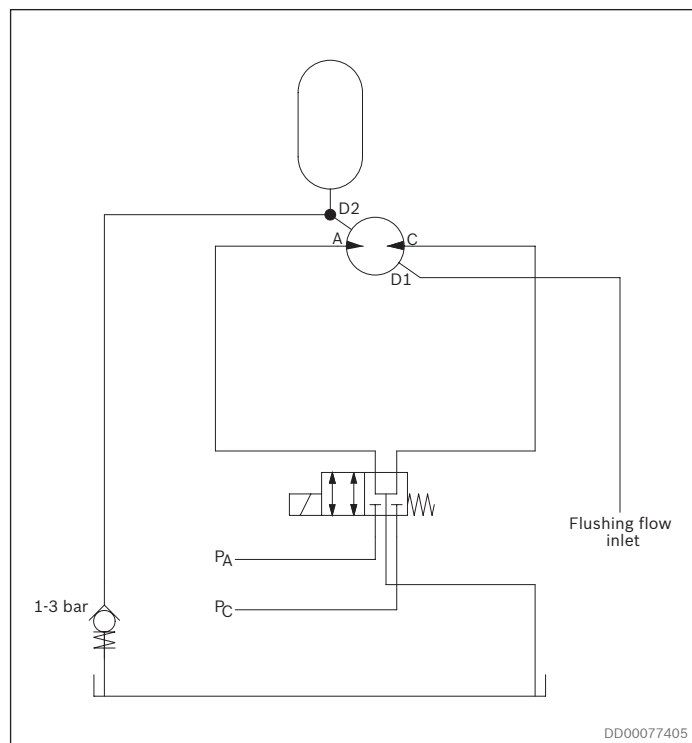
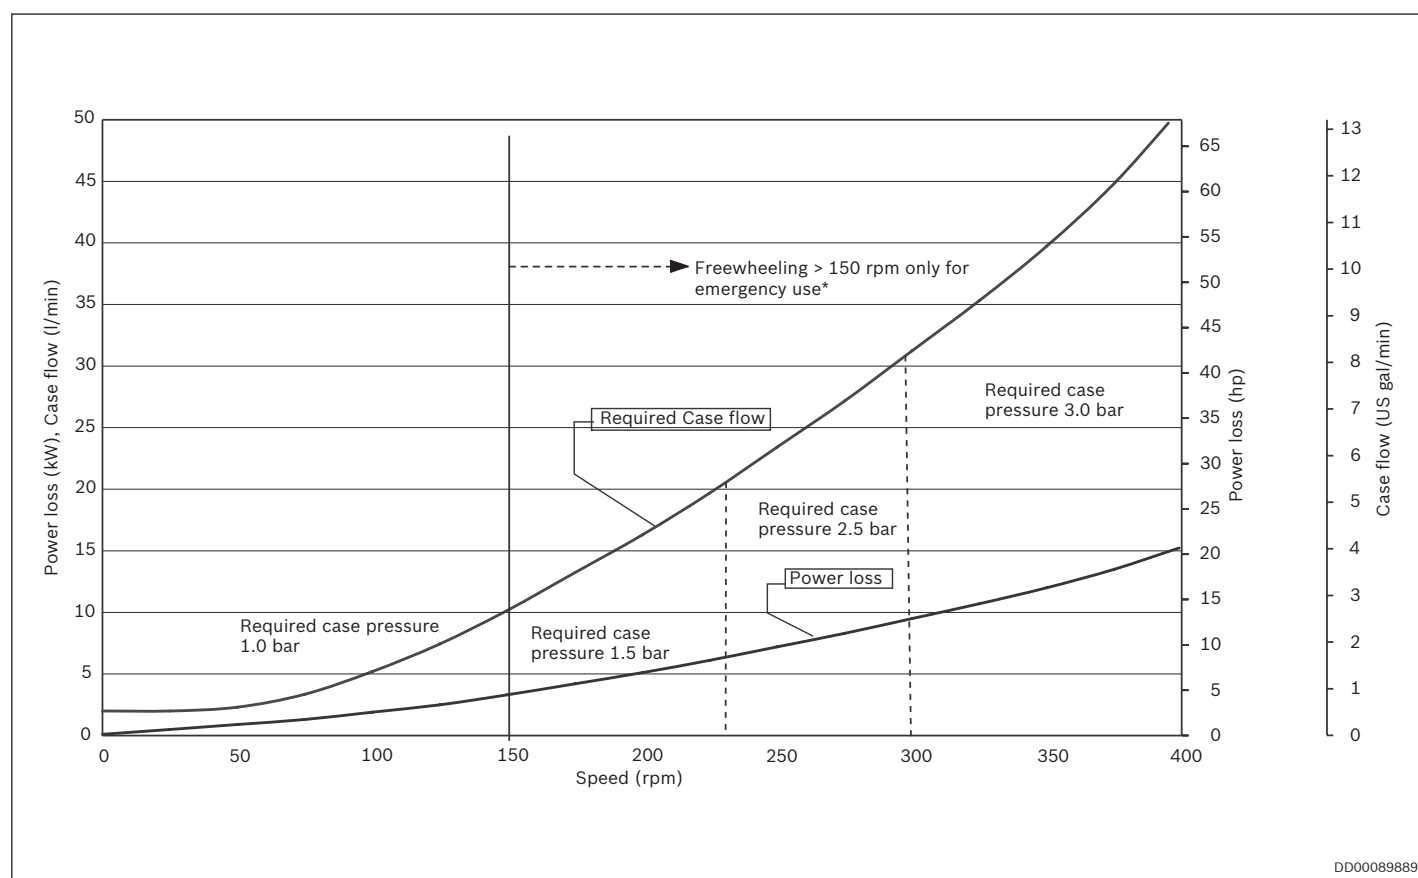

Fig. 55: Schematic principle freewheeling.
Fig. 56: Power loss freewheeling, oil viscosity 40 cSt (187 SSU)
The basic function of the freewheeling is to have the drain ports D1 - D4 lightly pressurized (see Fig. 56) while main ports A and C are without restriction drained directly to the fluid reservoir. See Fig. 55. The case pressure introduced in the normal drain connection will then act on the outer surface of each piston assembly pressing them towards the motor centre.
3. An adequate pressure introduced into the drain ports of the motor. See Fig. 56 (required case pressure).
- The motor must be pressurized all the time when the motor is in freewheeling mode, see *Fig. 56*.
- The motor must be flushed all the time when the motor is in freewheeling mode, see *Fig. 56*.
An accumulator can be added into the circuit to shorten the time to retract all the pistons completely, see *Fig. 56*.
An accumulator can be added into the circuit to reduce the pressure spikes in the motor case when the pistons are extracted, see *Fig. 55*.
Even if the freewheeling operation takes place with lowest possible friction in the main bearings and with no flow losses in the main ports of the motor, a powerloss must take place in the motor case due to viscous friction between moving and fixed parts. This powerloss is expressed in diagram, Fig. 56.
Case flushing is required to prevent overheating, see diagram Fig. 56
In order to accomplish proper freewheeling, a case pressure according to Fig. 56 has to be maintained. On the other hand, a higher casing pressure than 2 bar (29 psi) should be avoided in order to achieve good life of the main radial shaft seal.